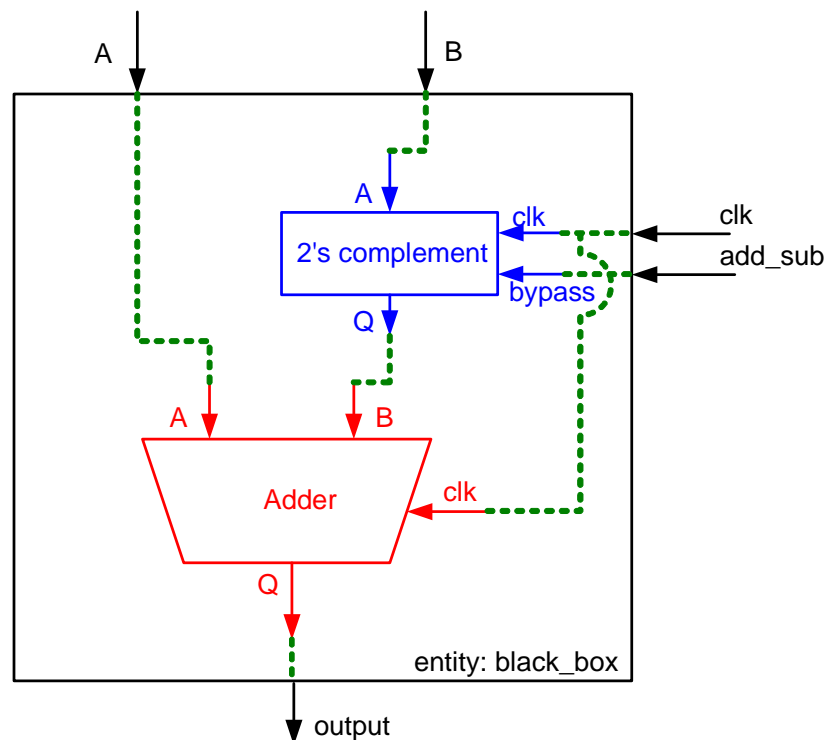

Figure 10. Adder – Subtractor schematic.
In this section we'll use what we just learn to implement the adder/subtractor shown in figure 10. The adder block and the 2's completer block will be created using Coregen. You will need to create a wrapper file and structural description to connect these elements together and build the system.
From the lecture notes it is known that in order to subtract ( $A - B$ ) two numbers in 2's complement representation the operand ( $B$ ) must be complemented and the result added to the second operand ( $A$ ). Schematic shown in figure 10 has a 2's complement block with a signal named **bypass**, which will enable or disable the 2's complement block according to the **add\_sub** input signal of the system. Let say we want to add  $A$  and  $B$ . **add\_sub** signal will then be high (1) and the 2's complement block will be bypassed. As a result  $A$  and  $B$  get added by the Adder block. Let say that now we want to subtract  $A$  and  $B$  ( $A - B$ ). **add\_sub** signal will now be low (0), the 2's complement block will take  $B$  and calculate its complement to send it to the Adder block. The adder block will add  $A$  and the 2's complement's of  $B$  which is equivalent to subtract  $B$  from  $A$  ( $A - B$ ).
6. Complete the system description, using structural description. Complete the description of the system filling out the connections in the component instantiation section of the code, following the schematic shown in figure 10. The connections you have to complete are drawn in green. Note that the output “Q” of the 2’s complement block is 6 bits wide and the input B of the adder-subtractor is only 5 bits wide. Here you will have to leave the most significant bit of “Q” unconnected. (Hint: instead of connecting “Q”, connect only “Q(4 down to 0)”. This will leave “Q(5)” unconnected).